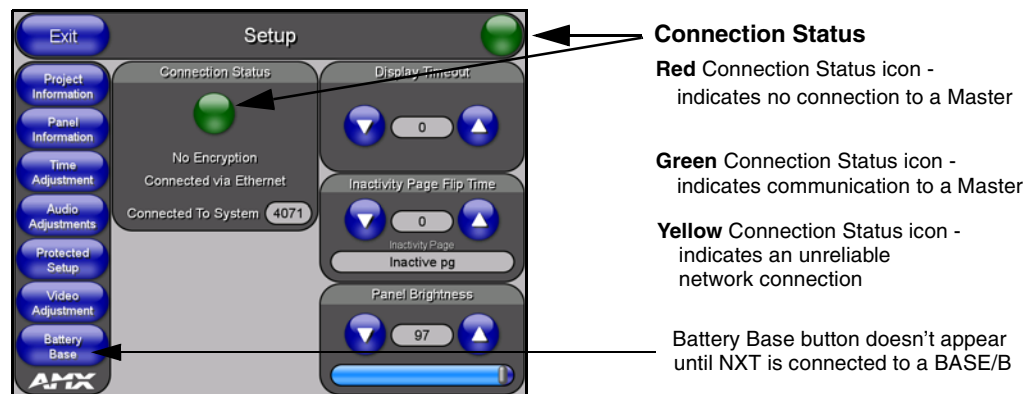

FIG. 71 Setup page
1. Press the grey Front Setup Access button for **3 seconds** to open the Setup page (FIG. 71).